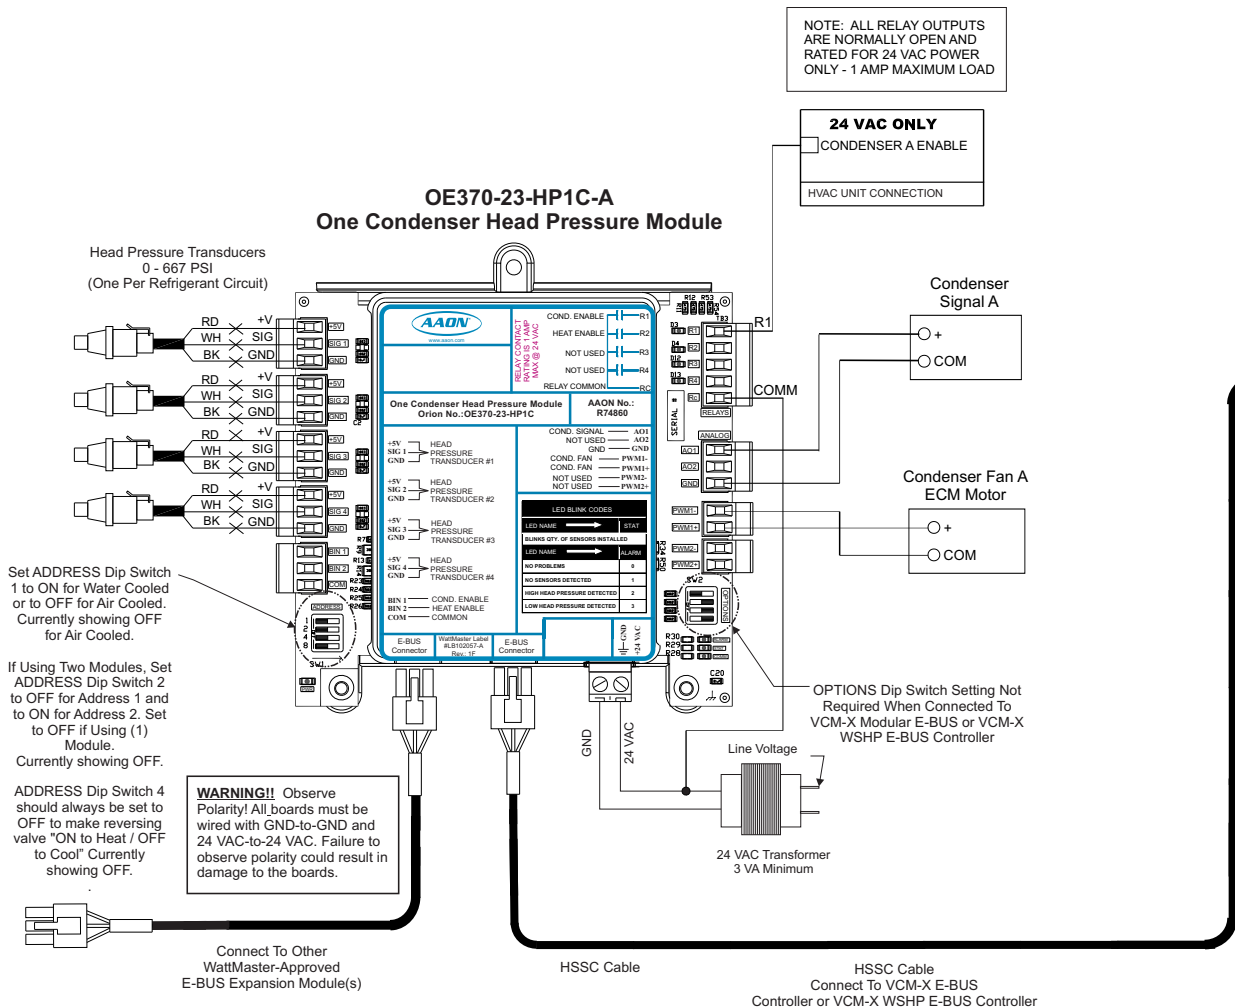

Figure 5: VCM-X E-BUS Controller to Two Condenser Head Pressure Module Wiring Diagram
Up to (2) One Condenser Head Pressure Modules can be daisy-chained together and connected to the E-BUS Controller using a modular HSSC cable. The One Condenser Head Pressure Module requires a 24 VAC power connection with an appropriate VA rating. See **Figure 5** below for wiring.